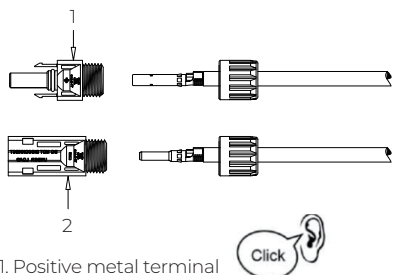
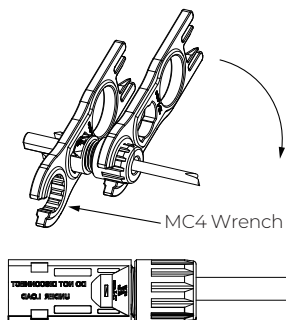

Figure 6-12-3
Figure 6-12-4
Step 4: Insert the crimped positive and negative power cables through the locking nut and into the corresponding plastic housing until you hear a click, which indicates that the metal core has been snapped into place, and then tighten the locking nut. See Fig. 6-12-3 and Fig. 6-12-4.